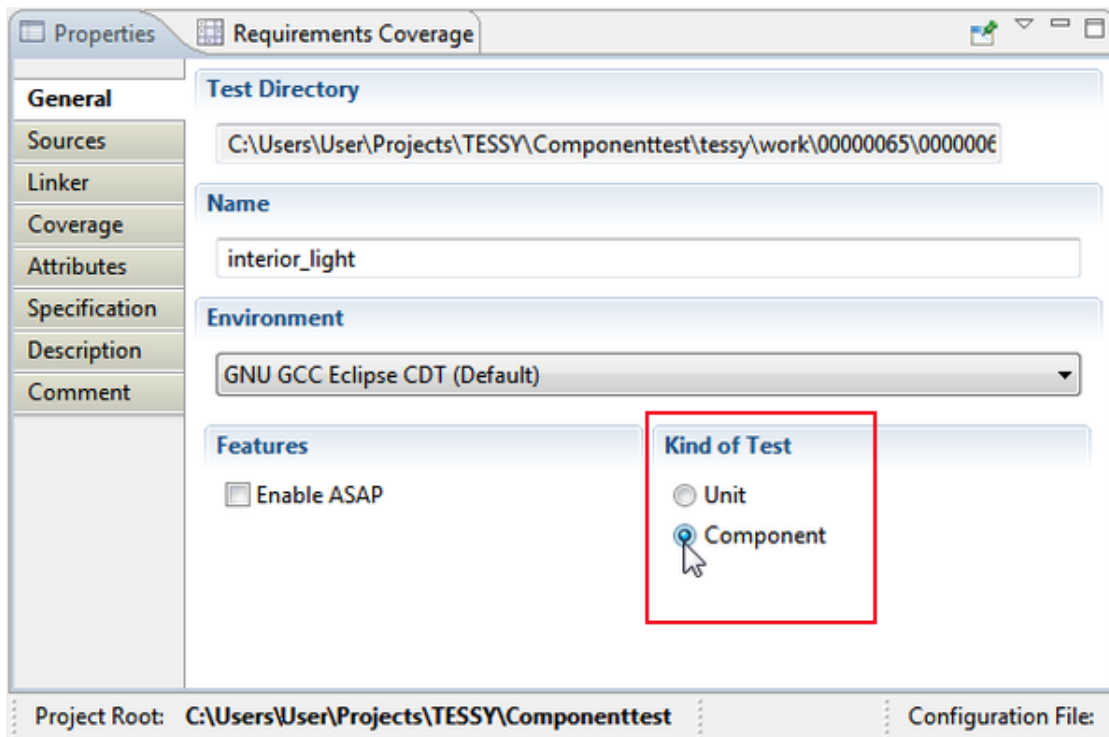

Figure 5.69: Selecting “Component” in the module properties
- In the Properties view switch the Kind of Test to “Component” (see figure 5.69).